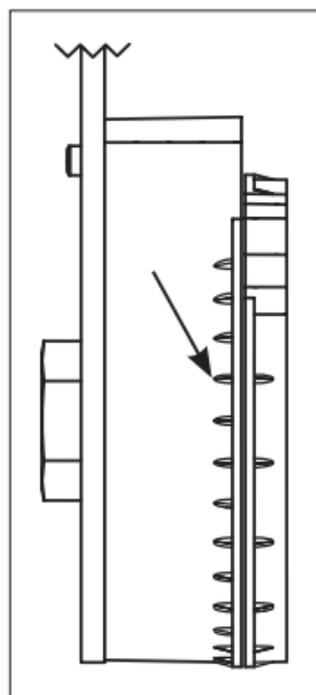

Fig. 3
8. From the starting point, continue rotating the wrench to the desired degrees of rotation and resulting tensioner force. **Note: The tensioner is rated at .6 lbs. force per degree and has equally spaced graduation marks every 10° on the housing (20° on base) that can be used to establish rotational degrees.** See Figure 3.